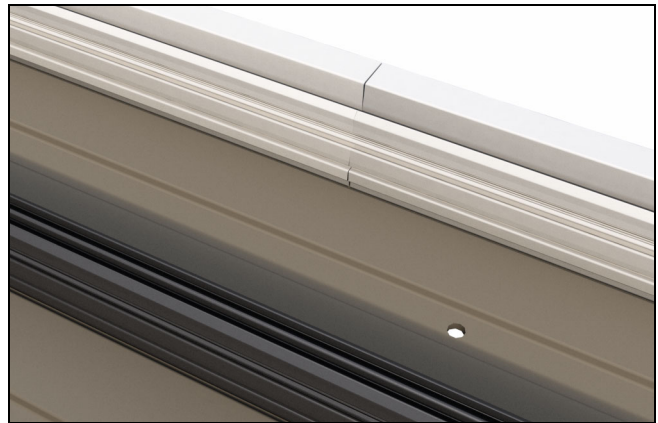

Figure 12
9. Flip head jamb assembly over so top side is down. Ensure frame connectors are tight at splices and evenly spaced on frame assembly. See figure 12.